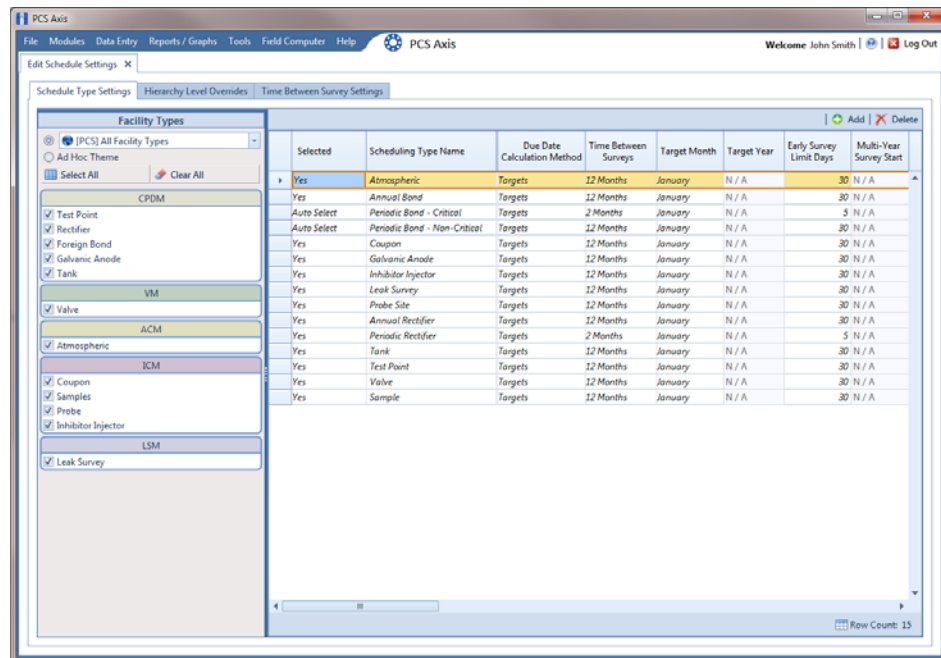

Figure 9-4. Schedule Type Settings
- 2 Click **Data Entry > Edit Schedule Settings > Schedule Type Settings** tab (Figure 9-4).